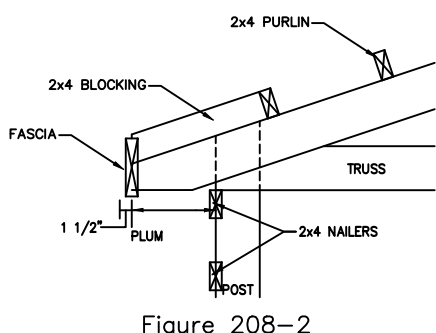

Figure 208-2
4. On 8' on center trusses cut, fit and nail a 2x4 overhang block on top of the truss top chord to provide extra nailing for the fascia. See figure 208-2.